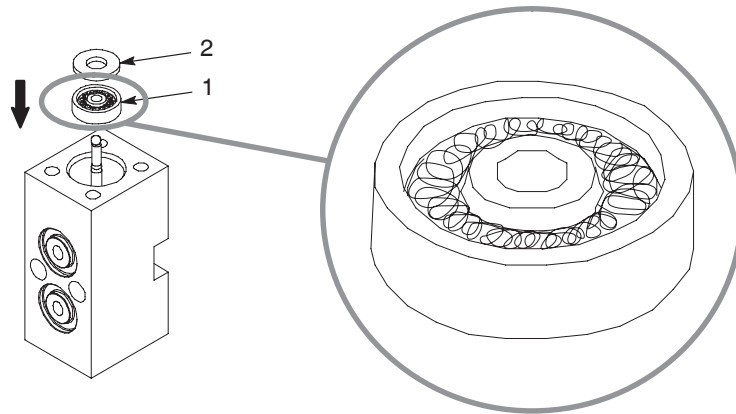

Figure 9-20 Inserting the spring seal, seal support disk, and compression spring
- See Figure 9-20. Insert the following in the bottom of the module body:
- spring seal (1) with the spring side pointing up (towards the bottom of the module).
- lower seal support disk (2)